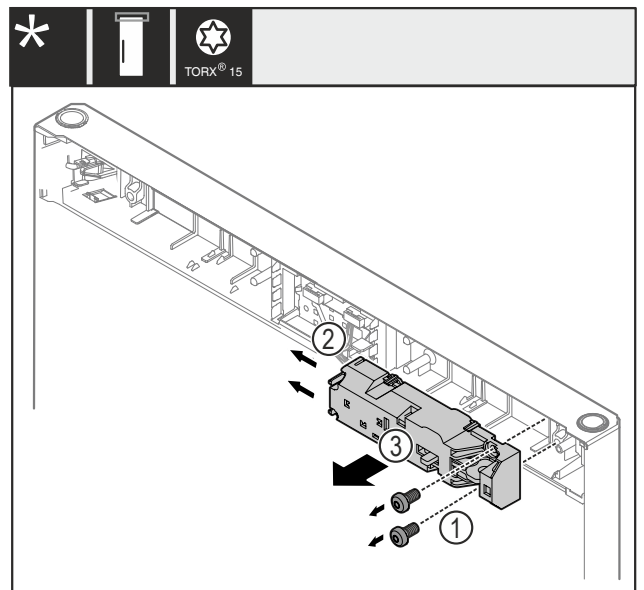

Fig. 21
- ▶ Remove the screws Fig. 21 (1).
- ▶ Push the latching tabs Fig. 21 (2) to the side and remove the remote lock Fig. 21 (3).